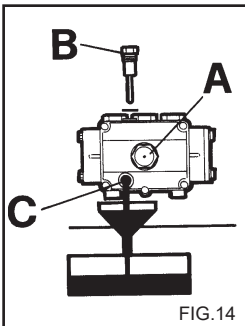

FIG. 14
- 2) Unscrew the cap with the dipstick (fig. 14).